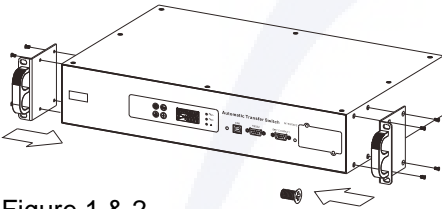
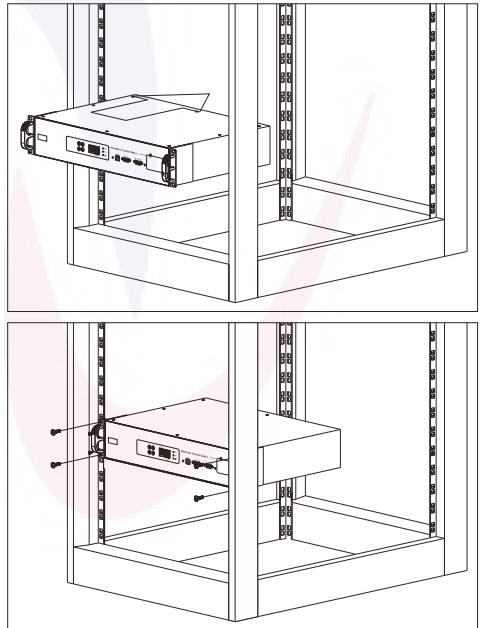
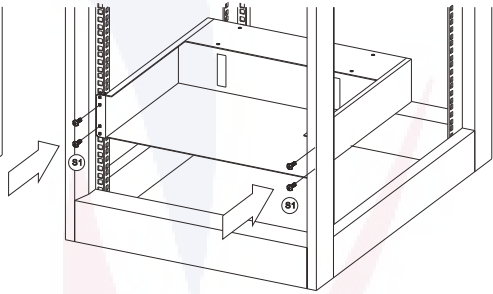

Figure 1 & 2
Figure 3
Figure 2
4. Affix the backplate (Figure 1) onto the ATS (Figure 2). Affix the ATS onto the frame of the chassis (Figure 3).
4. Affix the backplate (Figure 1) Affix the ATS onto the frame of the Maintenance Box (Figure 2) .